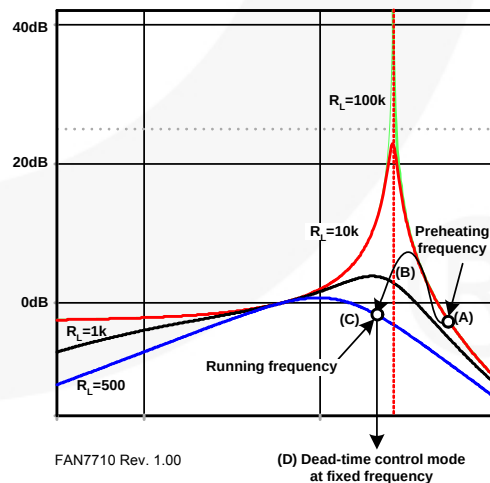

Figure 26. LCC Transfer Function in Terms of Lamp Impedance
The transfer function of LCC resonant tank is heavily dependent on the lamp impedance, R_L , as illustrated in Figure 26. The oscillator in FAN7710V generates effective driving frequencies to assist lamp ignition and improve lamp life longevity. Accordingly, the oscillation frequency is changed in following sequence:
Before the lamp is ignited, the lamp impedance is very high. Once the lamp is turned on, the lamp impedance significantly decreases. Since the resonant peak is very high due to the high-resistance of the lamp at the instant of turning on the lamp, the lamp must be driven at higher frequency than the resonant frequency, shown as (A) in Figure 26. In this mode, the current supplied by the inverter mainly flows through C_P . C_P connects both filaments and makes the current path to ground. As a
After the warm-up, the FAN7710V decreases the frequency, shown as (B) of Figure 26. This action increases the voltage of the lamp and helps the fluorescent lamp ignite. The ignition frequency is described as a function of CPH voltage, as follows:
Finally, the lamp is driven at a fixed frequency by an external resistor, R_T , shown as (C) in Figure 26. If V_{DD} is higher than $V_{DDTH(ST+)}$ and UVLO is released, the voltage of the R_T pin is regulated to 4V. This voltage adjusts the oscillator's control current according to the resistance of R_T . Because this current and an internal capacitor set the oscillation frequency, the FAN7710V does not need any external capacitors.
Even in the active ZVS mode, shown as (D) in Figure 26, the oscillation frequency is not changed. The dead time is varied according to the resonant tank characteristic.